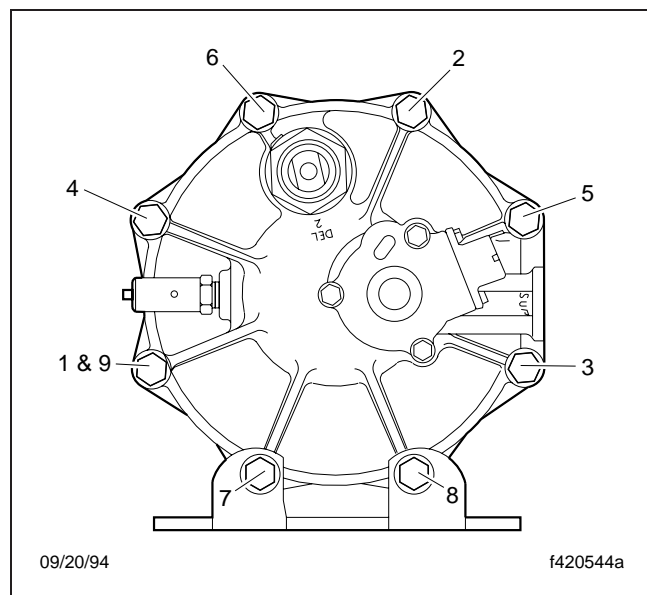

Fig. 2, Bendix AD-9 End Cover to Housing Torque Pattern
16. Install the six capscrews, 12 washers, and six new Nylok nuts. Torque the capscrews in a star pattern (see **Fig. 2**) 270 to 385 lbf·in (3060 to 4340 N·cm)